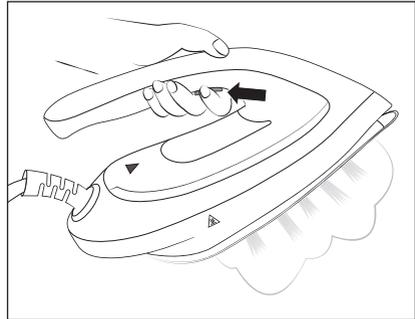

Fig. 5
- 2) Take the steam iron **1** off its base **17**, and press the steam button  **2** (see Fig. 5) while ironing. Steam escapes from the steam outlet openings in the soleplate **4**.